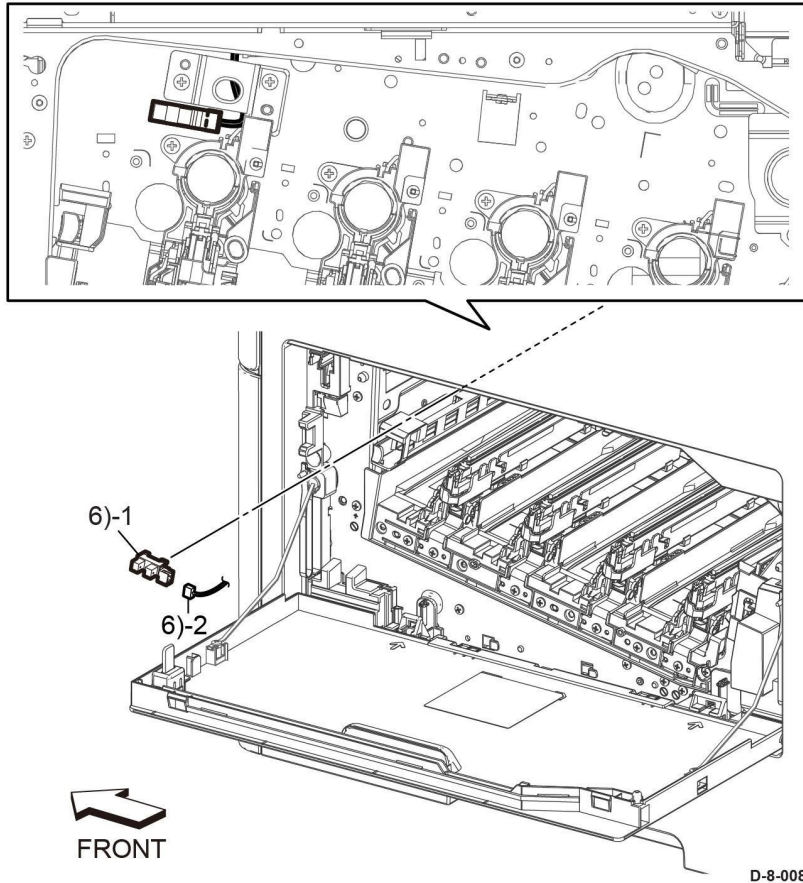

Figure 1 Remove the Photo Sensor
3. Refer to Figure 1 to remove the Photo Sensor.